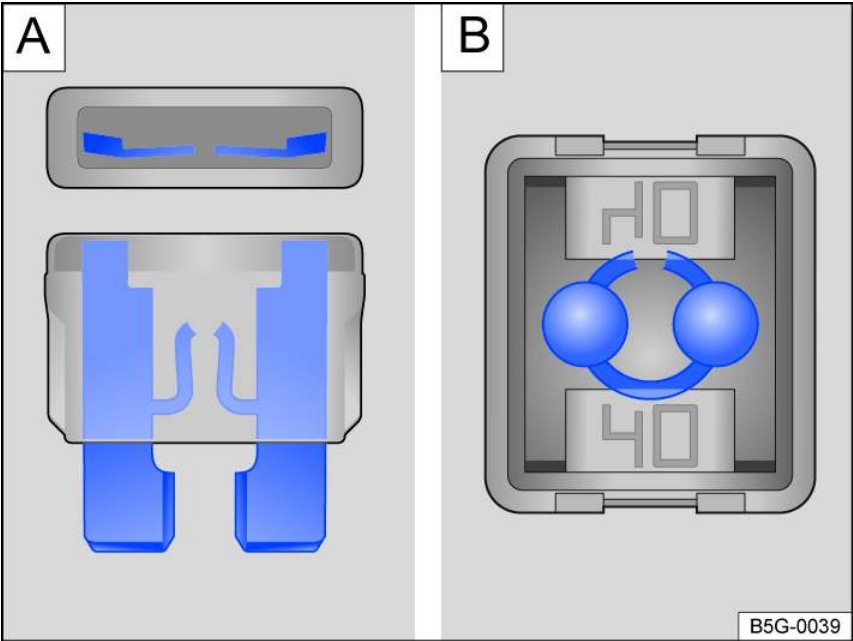

Fig. 140 Blown fuse (general example).
- A blown *flat connector fuse* (ATO®, MINI®) has metal strips that have burned through, which you can see through the transparent housing from above and from the side fig. 140 A.
- A blown *block fuse* (JCASE®) is recognizable by the melted metal strip seen through the transparent housing from above fig. 140 B.